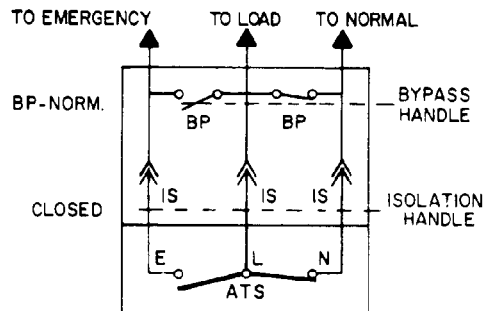

Figure 3-10. Closed position
5. Turn the **Isolation Handle** clockwise to the *CLOSE* position (Figure 3-10).